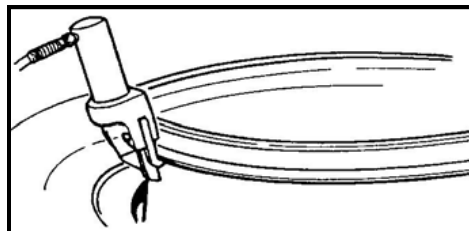

Figure 6
4. Stop breaking the tire bead when you have moved the bead breaker about 3/4 of the way around the rim. (See Fig. 6.)